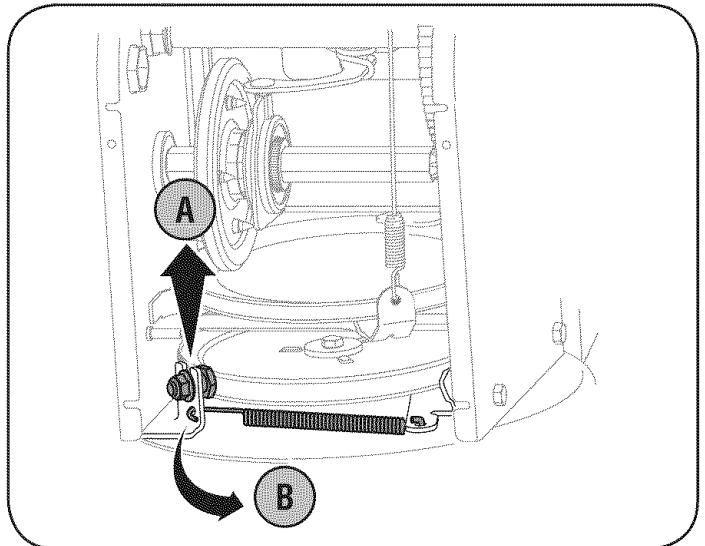

Figure 24
6. Remove the belt as follows. Refer to Figure 24.